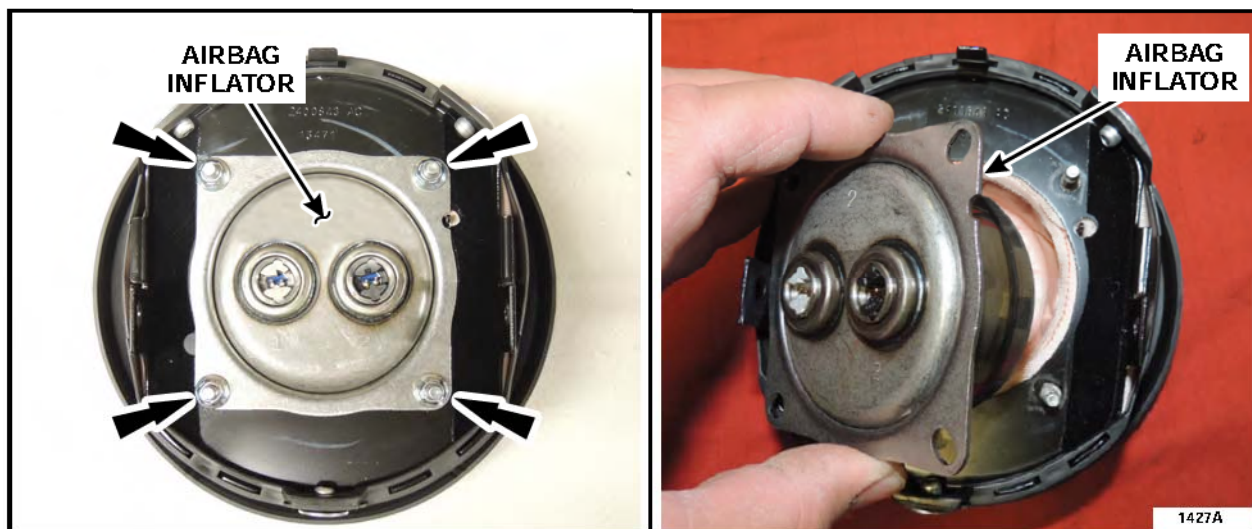

FIGURE 1
3. Remove and discard the four airbag inflator retaining nuts from the driver side airbag. See Figure 1.
Remove the airbag inflator and set aside for return shipping. See Figure 1.